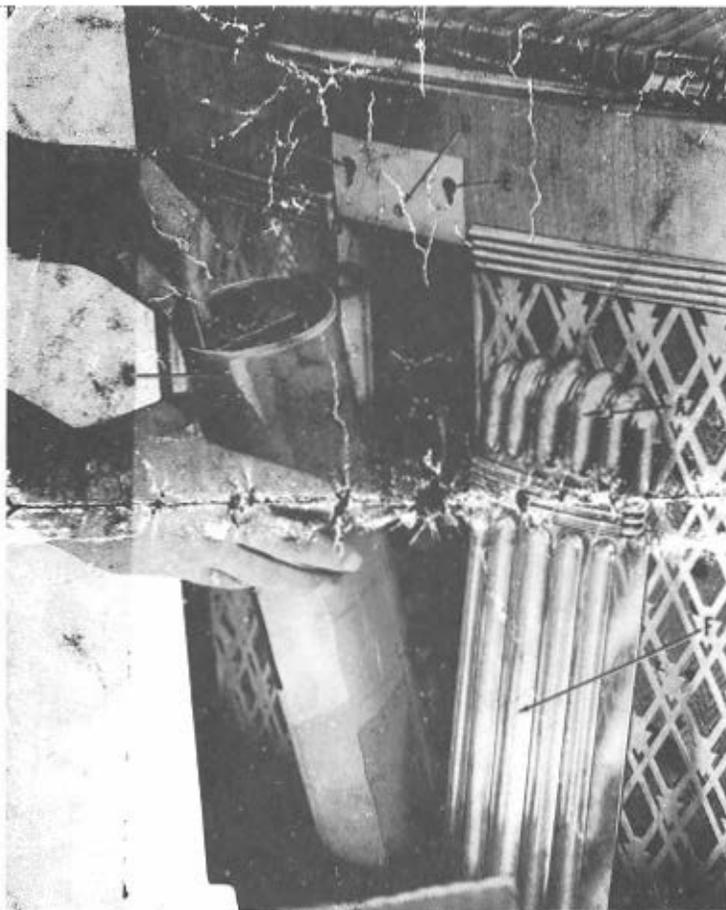

Fig. 4 - Magic-Glo Panel
2. Raise metal cap and Magic-Glo panel (A and F-Fig. 4) upward until screws in metal cap touch top of slots (D and E-Fig. 4).
5. Remove bracket screw from threaded hole (B-Fig. 4).